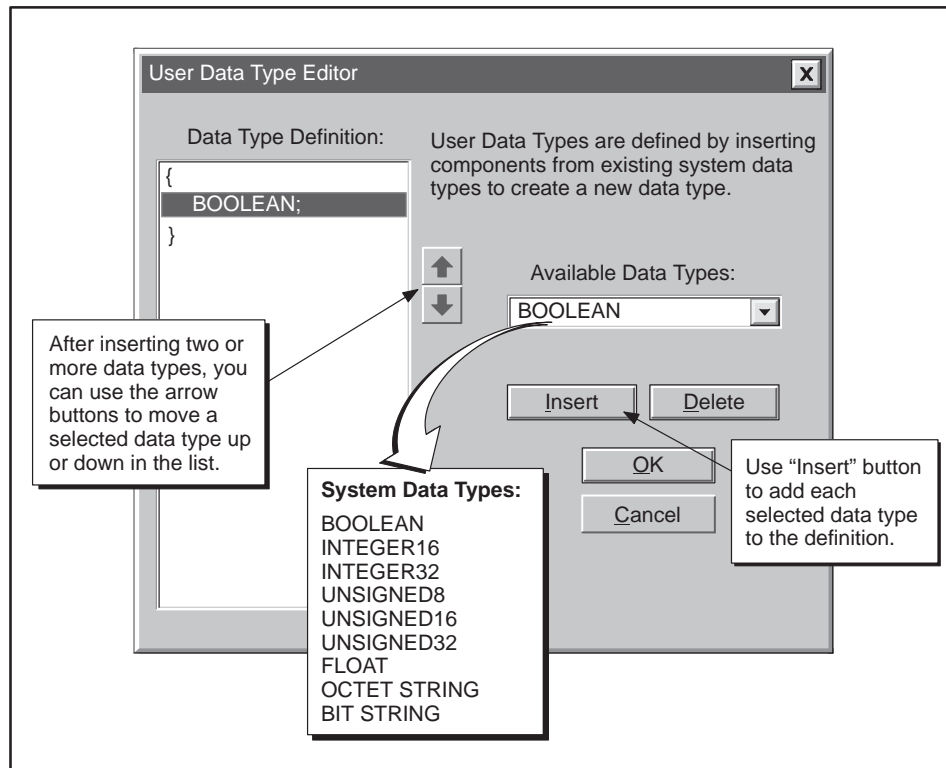

Figure 5-27 User Data Type Editor Dialog Box
**Definition** When you click on the Definition field, a button appears. Click on the button to bring up the User Data Type Editor dialog box (shown in Figure 5-27). Use the drop-down list of available data types together with the insert or delete buttons to build your data type definition. Then click on OK in the dialog box to complete the User Data Type. (Refer to Section A.3 for more details on data types.)